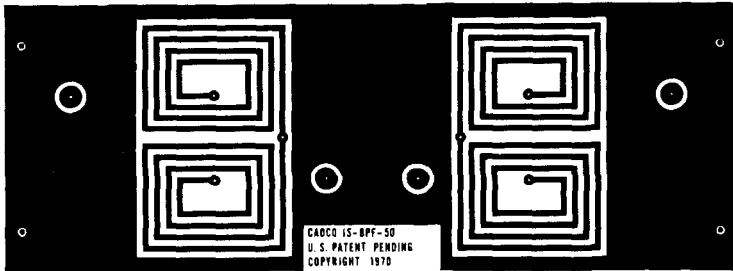

fig. 3. Half-size layout of the 50-MHz bandpass filter board.
**L1, L3, L4, L6** etched inductances on printed-circuit board (fig. 3)
Etched-inductance interdigital bandpass filters for 50 and 144 MHz are shown in the photographs. A half-size layout of the 50-MHz board is shown in fig. 3; a half-size layout of the 144-MHz board is shown in fig. 4. Parts lists for the two boards are given in tables 1 and 2, respectively, for the 50- and 144-MHz filters. Commercially-made printed-circuit boards and complete parts kits are available.\*